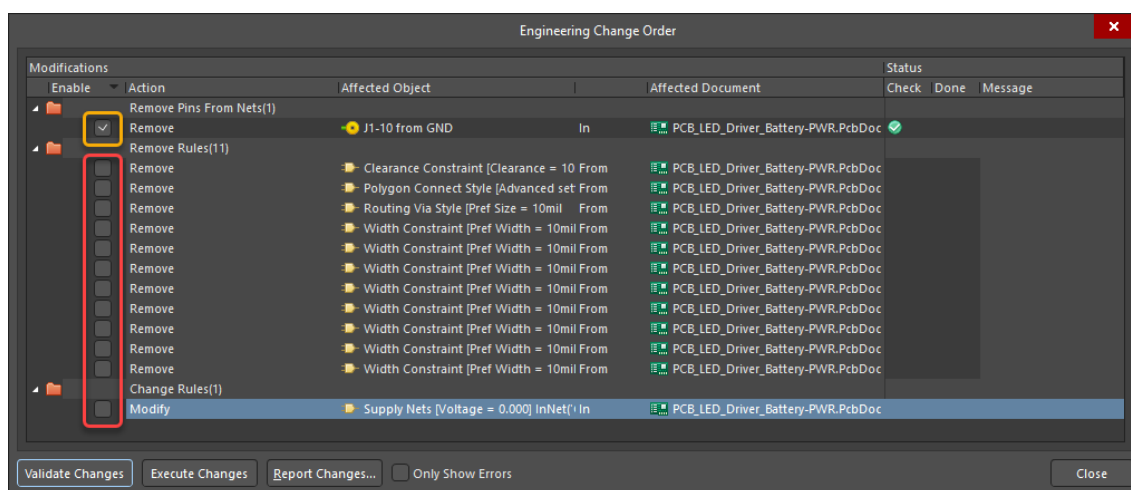

Figure 17. Select what to include in ECO
- Keep the item noted in the **Gold box checked**. All other items noted in the red rectangle should be unchecked, Figure 17.